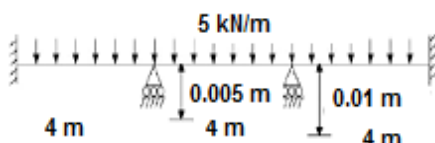

Figure-3
- (c) Using stiffness member approach compute reactions continuous beam ABCD as shown in **Figure-3** when Support **B** sinks down by 0.005m and support **C** sinks down 0.01. Assume $E = 200 \text{GPa}$ and $I = 4 \times 10^{-4} \text{m}^4$. **07**